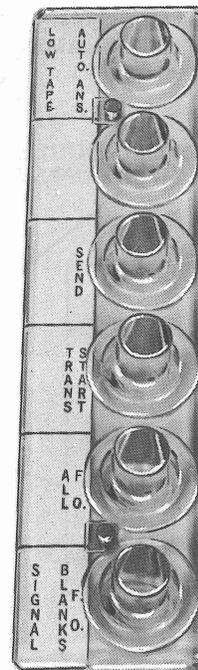

Figure 4 - Control Panel for 5B Tape Receiver
3.03 The tape insertion procedure is as follows (use Figures 4 and 5 as aids).
- (5) Thread the tape through the rollers and punch. It will be necessary to turn on the equipment power to retract the punch pins.
- (6) With blank tape threaded through the punch, hold down the BLANK F. O. key (Figure 4) while pulling the free end of the tape, until the tape is capable of feeding normally under control of the punch. Feed out approximately 3 feet of tape.
- (7) Lift the tape tension arm until it latches in the up position, and thread tape between the posts on the tension arm and the u-shaped stationary posts as shown.
- (8) Hold the free end of the tape tight. Release the tape tension arm latch and allow the tension arm to return to its original position.
- (9) Place the free end of the tape in the take-up reel and put the reel on its hub. Engage the driving dog on the winder hub and turn the reel counterclockwise to start the tape on the reel.
- (10) Press the ALL F. O. button and observe that all levels are punched and the tape is being properly spooled.
- (11) Replace the punch cover.